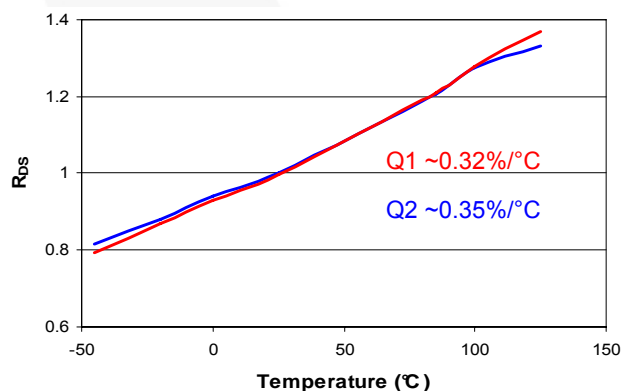

Figure 8.  $R_{DS}$  vs. Temperature, Normalized ( $V_{CC}=V_{GS}=5\text{V}$ )
- $K_T$  = Normalized temperature coefficient of the low-side MOSFET (Q2 from Figure 8);